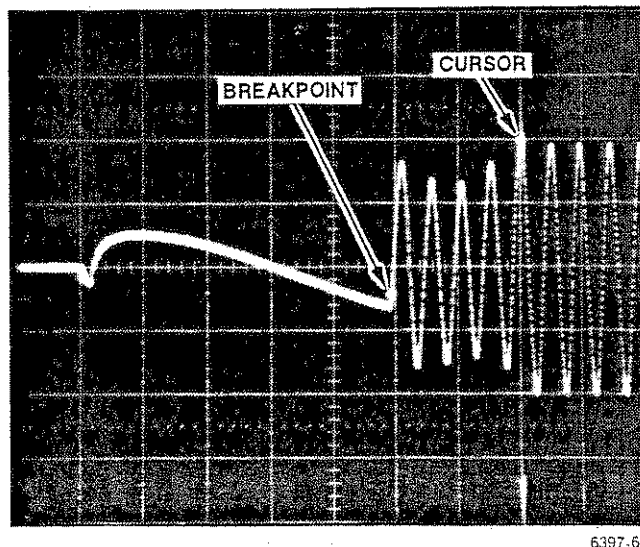

Fig. 3-50. Voltage measurement with CURSOR 1.
2. The first measurement to be made is the waveform peak voltage. Press the MEASURE $V/\Delta V$ key to display the voltage at the cursor location. Rotate the Parameter Entry Knob to move the cursor along the waveform to the maximum peak voltage point (Fig. 3-50).
3. Press the MEASURE T/ Δ T key to display the period between the indicated cursor point and the trigger point on the Control display (Fig. 3-50).